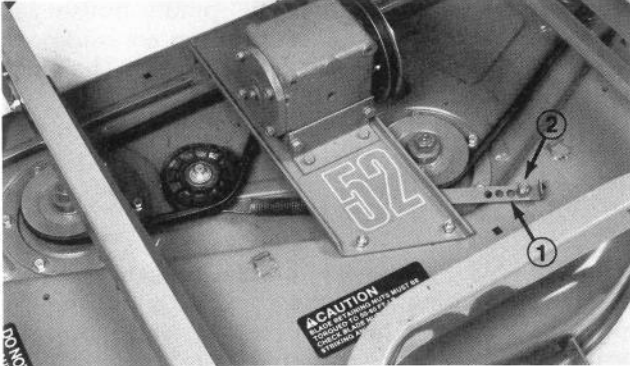

Figure 19
2. Remove nut securing spring anchor to capscrew in housing (Fig. 19). Lift anchor off capscrew and pull to increase belt tension. Correct belt tension is achieved when approximately 30-40 lbs. of force is applied to spring.
2. Remove nut securing spring anchor to capscrew in housing (Fig. 19). Remove anchor and allow belt to relax.